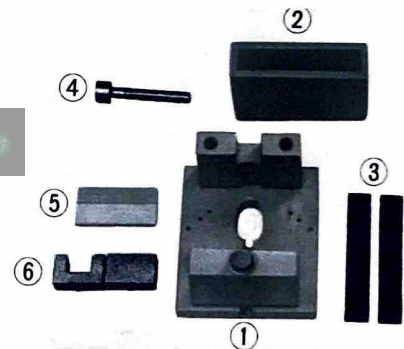

Fig. 4-17-11
- 6) Remove the crankshaft pin in the manner as shown in Fig. 4-17-10. (For this purpose, use the jigs as shown in Fig. 4-17-11)
To reassemble the crankshaft ass'y use a set of special jigs as shown in Fig. 4-17-11.